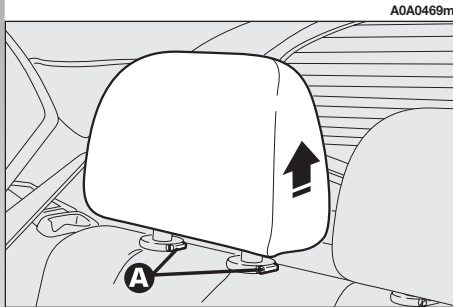

fig. 20
– raise the headrests to the highest position, press both buttons (**A-fig. 20**) at the side of the two supports, then remove the headrests pulling them upwards.